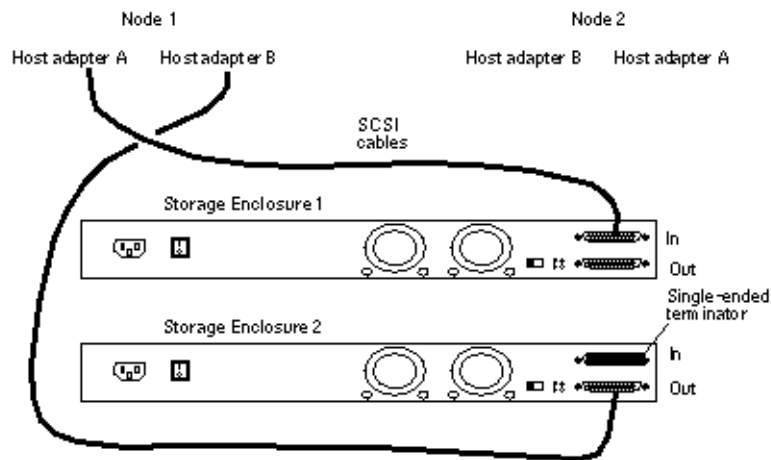

FIGURE 1-5 Adding a Storage Arrays Mirrored Pair Configuration: Part I
4. **Install a terminator on the SCSI IN port of the *second* storage arrays as shown in Figure 1-5. This terminator is temporary.**